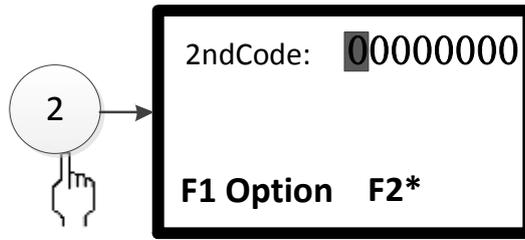

Fig. 3-17
② User Code
Enter the screen as shown in Fig. 3-17 by pressing number 2 or moving the cursor to select ②. In this screen, an address of any loop can be set to disable or cancel disable. Pressing “F1” can make selections. Press Enter after selection.